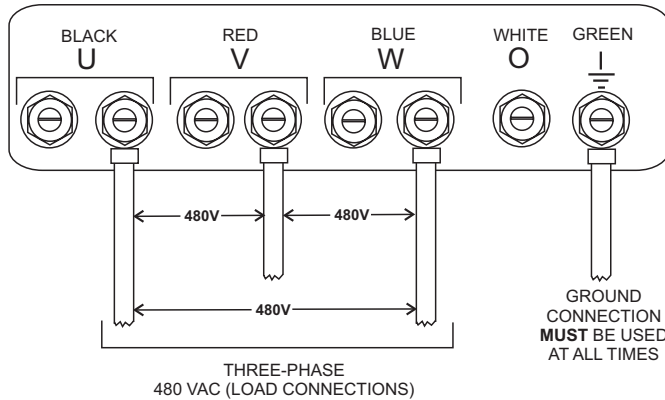

**Figure 31. UVWO Terminal Lugs
2. Connect the load wires to the UVWO terminals as shown in Figure 31.